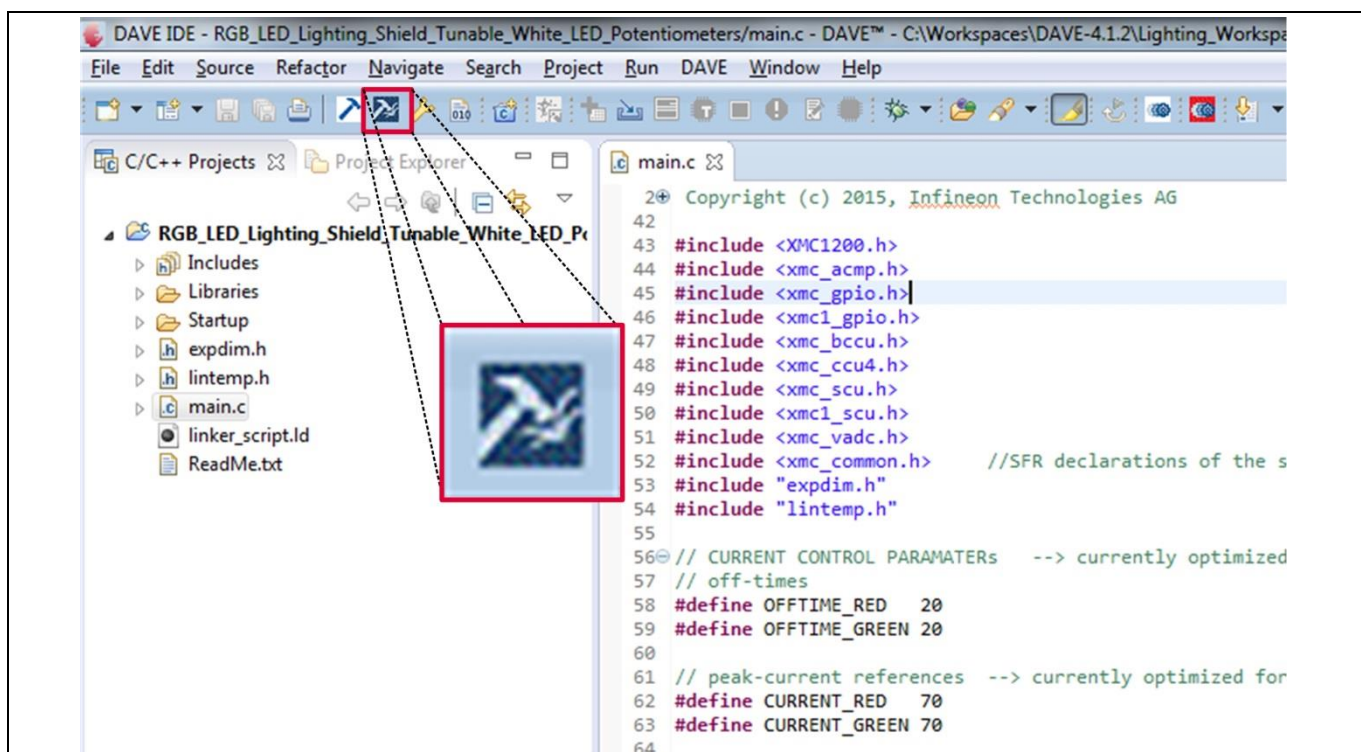

Figure 19 Rebuild the project
- The project should appear in the DAVE™ workspace. Rebuild the project by clicking the “Rebuild active project” icon on the DAVE™ IDE toolbar (Figure 19).